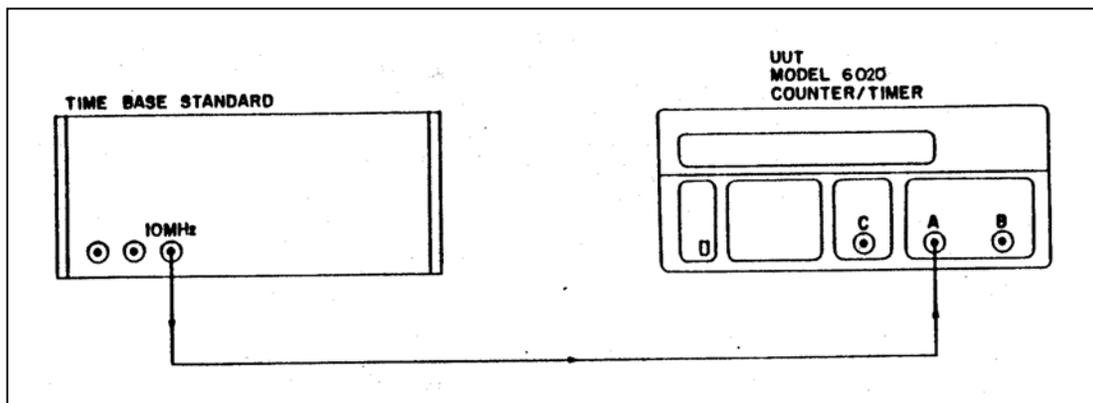

Figure 5-16. Time Base Accuracy Test Set-up.
1. Connect the test equipment as described in Figure 5-16.